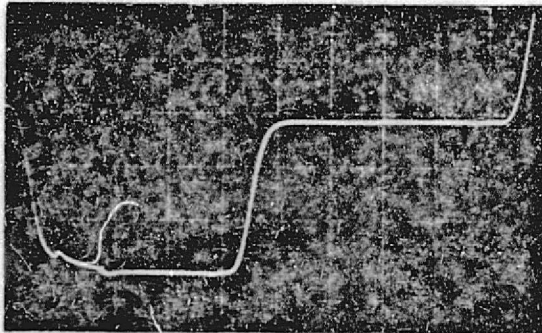

Figure 5-9. A2TJ1 V-Clamp (External Sync Clamp)
5.3.1.2.3.1. Clamp Delay Adjustment (refer to Figure 5-9)
3. Adjust A4-R12 (CLAMP DLY) so that the leading edge of the clamp pulse is approximately 1 μ s after the beginning of the horizontal sync pulse (as shown in Figure 5-9).